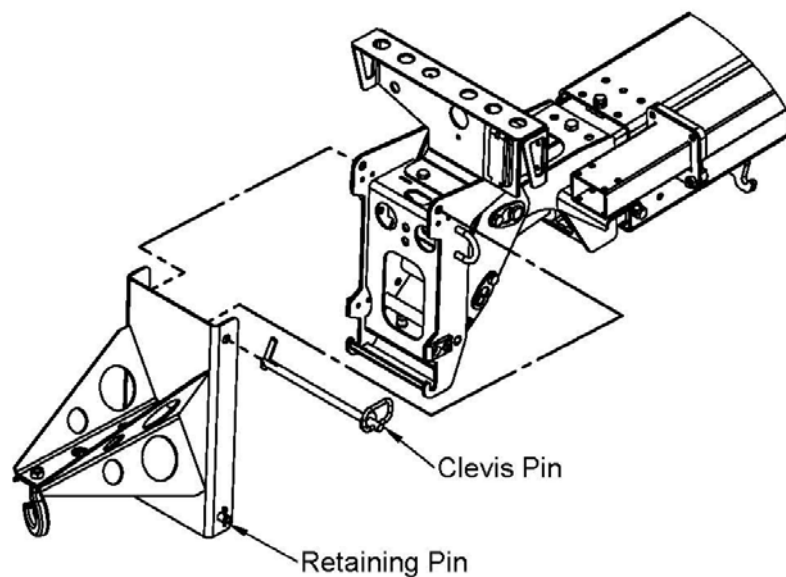

Figure 8-4. Material Lifting Hook Installation
- Attach the material lifting hook to the mounting bracket on the boom nose and re-insert the clevis pin. See Figure 8-4.